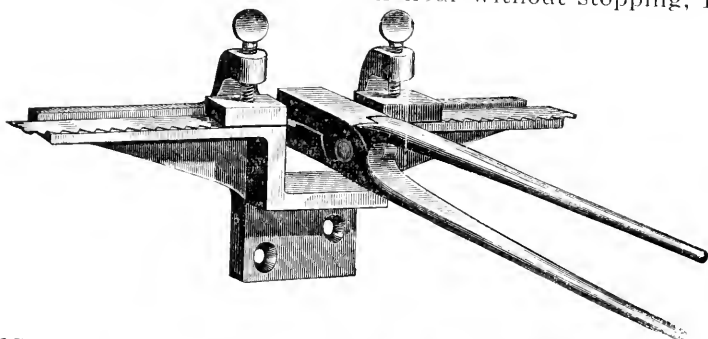

FIG. 40--BRAZING TONGS IN POSITION AFTER HEATING
**42 Brazing --** A brazing clamp with tongs is illustrated in Figs. 40 and 41. Before joining, the ends must be filed at an angle so as to give a good bevel fit to the ends. (Be sure that the joint after
brazing will be no thicker than any other part of the saw.) Both ends of the saw are then secured in the clamp, as shown in Fig. 40. The edges must be parallel, that is, the back edges of the two ends of the saw must form a straight line, otherwise the saw will run badly and break soon after it has again been placed on the machine. This may be kept straight, if the back edge of the saw is placed firmly against the straight edge which forms the back part
For a flux, use a thin coating of borax paste. This is prepared by grinding the borax on a specially prepared slate, with a small amount of water. A thin piece of sheet silver solder, just the size of the joint, is then placed in the lap. The brazing tongs heated to a bright red, are next placed over the joint, as shown in Fig. 40. However, **be sure** that you first scrape the scale off